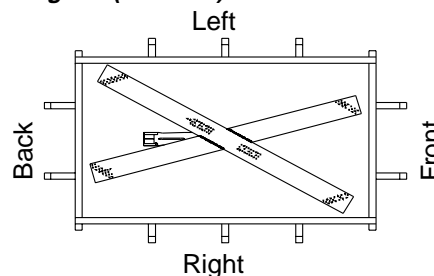

Figure 43 - Burner and Grate (Top View)
7. Figure 43, shows the top view of the burner and grate.